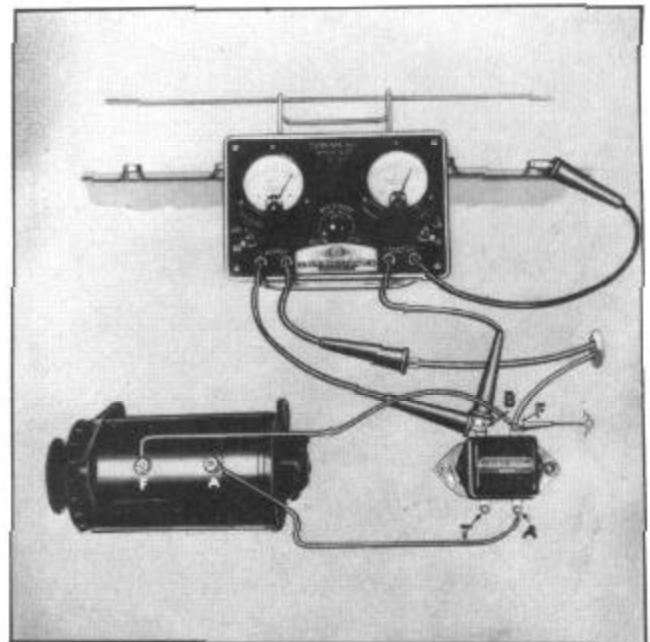

Figure 4--Checking Generator Charging Rate
1. Disconnect "BAT" lead at "B" terminal on voltage regulator, see Figure 4.